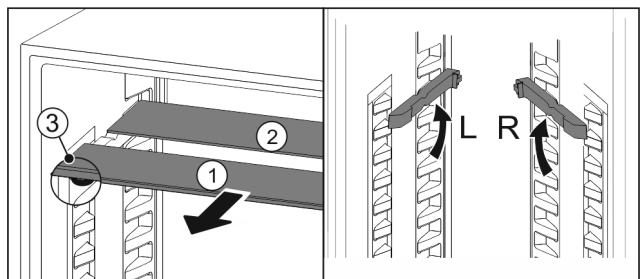

Fig. 55
- ▶ Pull the glass panels out Fig. 55 (1) from the front, one at a time.
- ▶ The glass panel Fig. 55 (1) and trim strip are at the front.
- ▶ The stops Fig. 55 (3) point down.